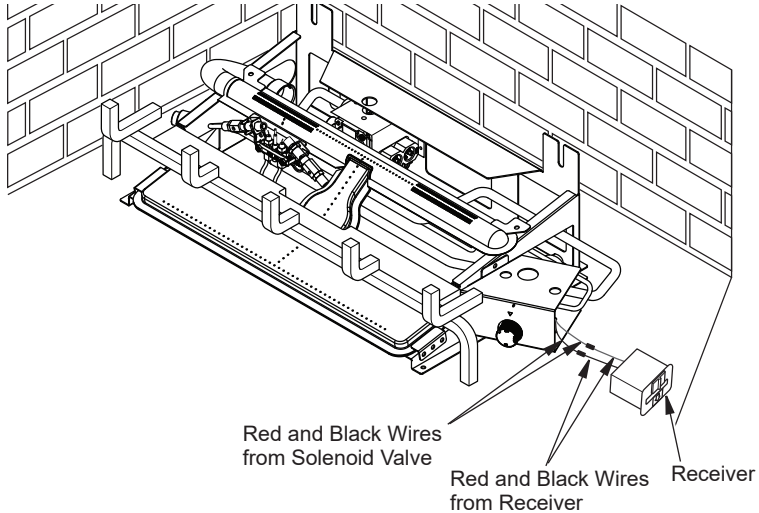

Figure 21 - Attaching Remote Receiver to Solenoid Valve
2. Locate red and black wires from solenoid valve on right side of heater. Connect wires to receiver, red to red, black to black, (see Figure 21).
3. Place receiver to the side of the log set, (see Figure 21).